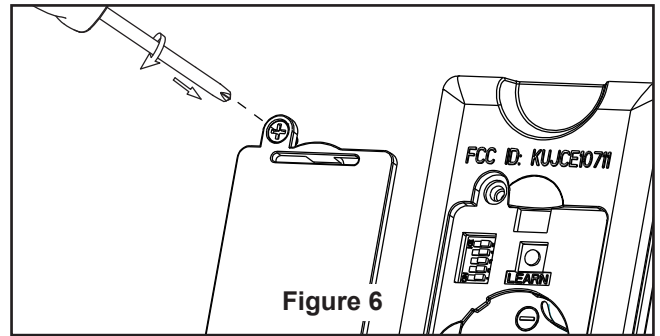

Figure 6
6. Secure the steel cap to light kit wire cover by twisting in a clockwise direction. Do not over-tighten. (Figure 6)
8. Replace battery cover on the remote control and secure with the previously removed screw. (Figure 6)